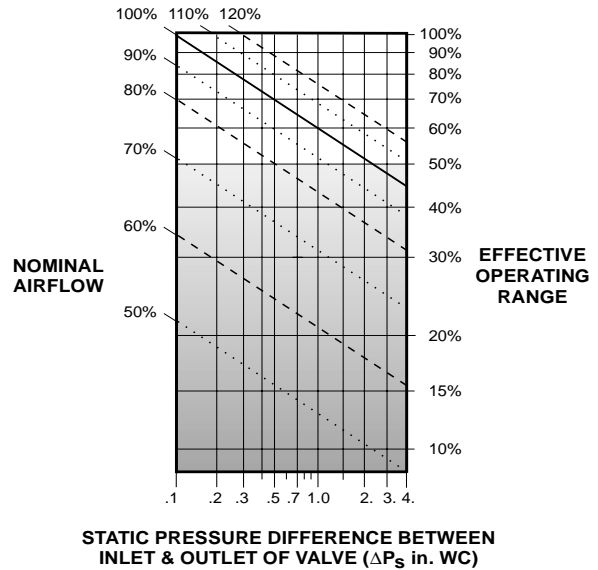

Figure 2. Controllability Graph
Figure 2 shows the effect of airflow rate and ΔP_s on controllability for VAV valves. The maximum operating range of a VAV valve is the physical distance (linear or rotational) in which it modulates. The Effective Operating Range is equal to the maximum operating range minus the amount the valve must close to compensate for the system static pressure at the design airflow rate. Optimum controllability is attained by selecting the smallest sized unit which meets the design airflow and sound requirements.
- G. Check the effective operating range of the unit against the design requirements using Figure 2 (page 2). Calculate the percent of nominal airflow using the following formula:
- G. The % of nominal airflow = 1700 \div 1700 = 100%. Checking the effective operating range at 100% for 1.0" ΔP_s from Figure 2 (page 2), it is determined that the effective operating range of the unit is 60% (effective operating ranges below 50% are not recommended).